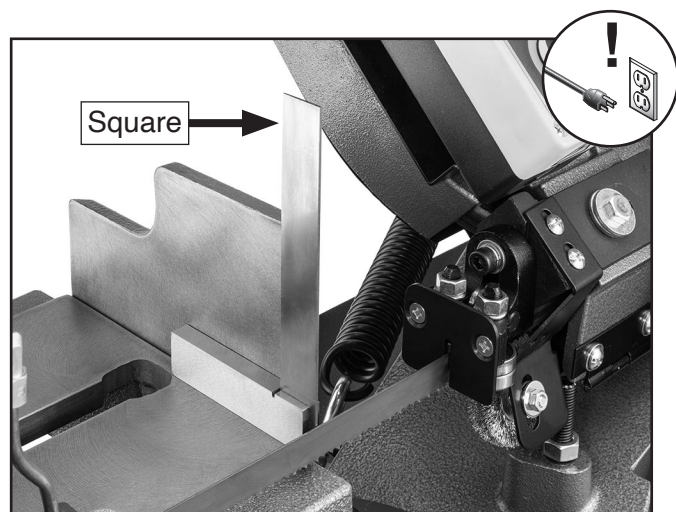

Figure 82. Checking blade squareness.
3. Put square against face of vise and move it over to blade (see **Figure 82**).